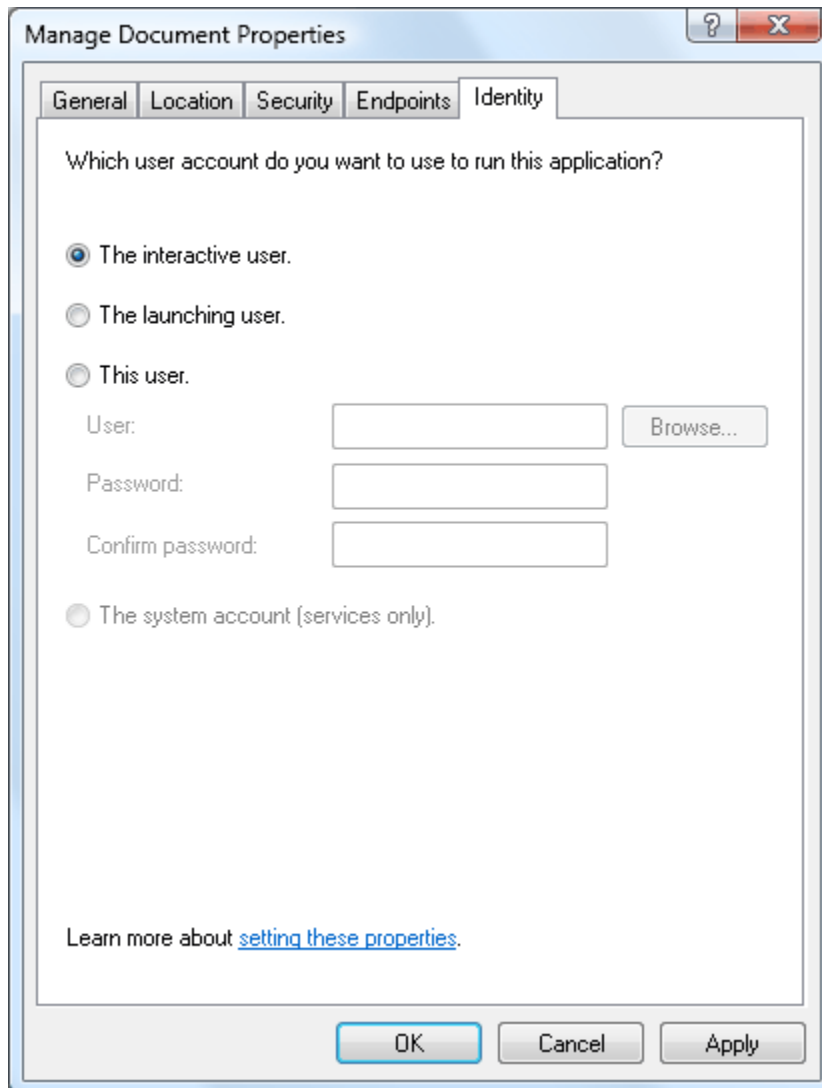

Figure 26: Manage Document Properties Window-Identity Tab
6. Select the **Identity** tab, as shown in Figure 26.